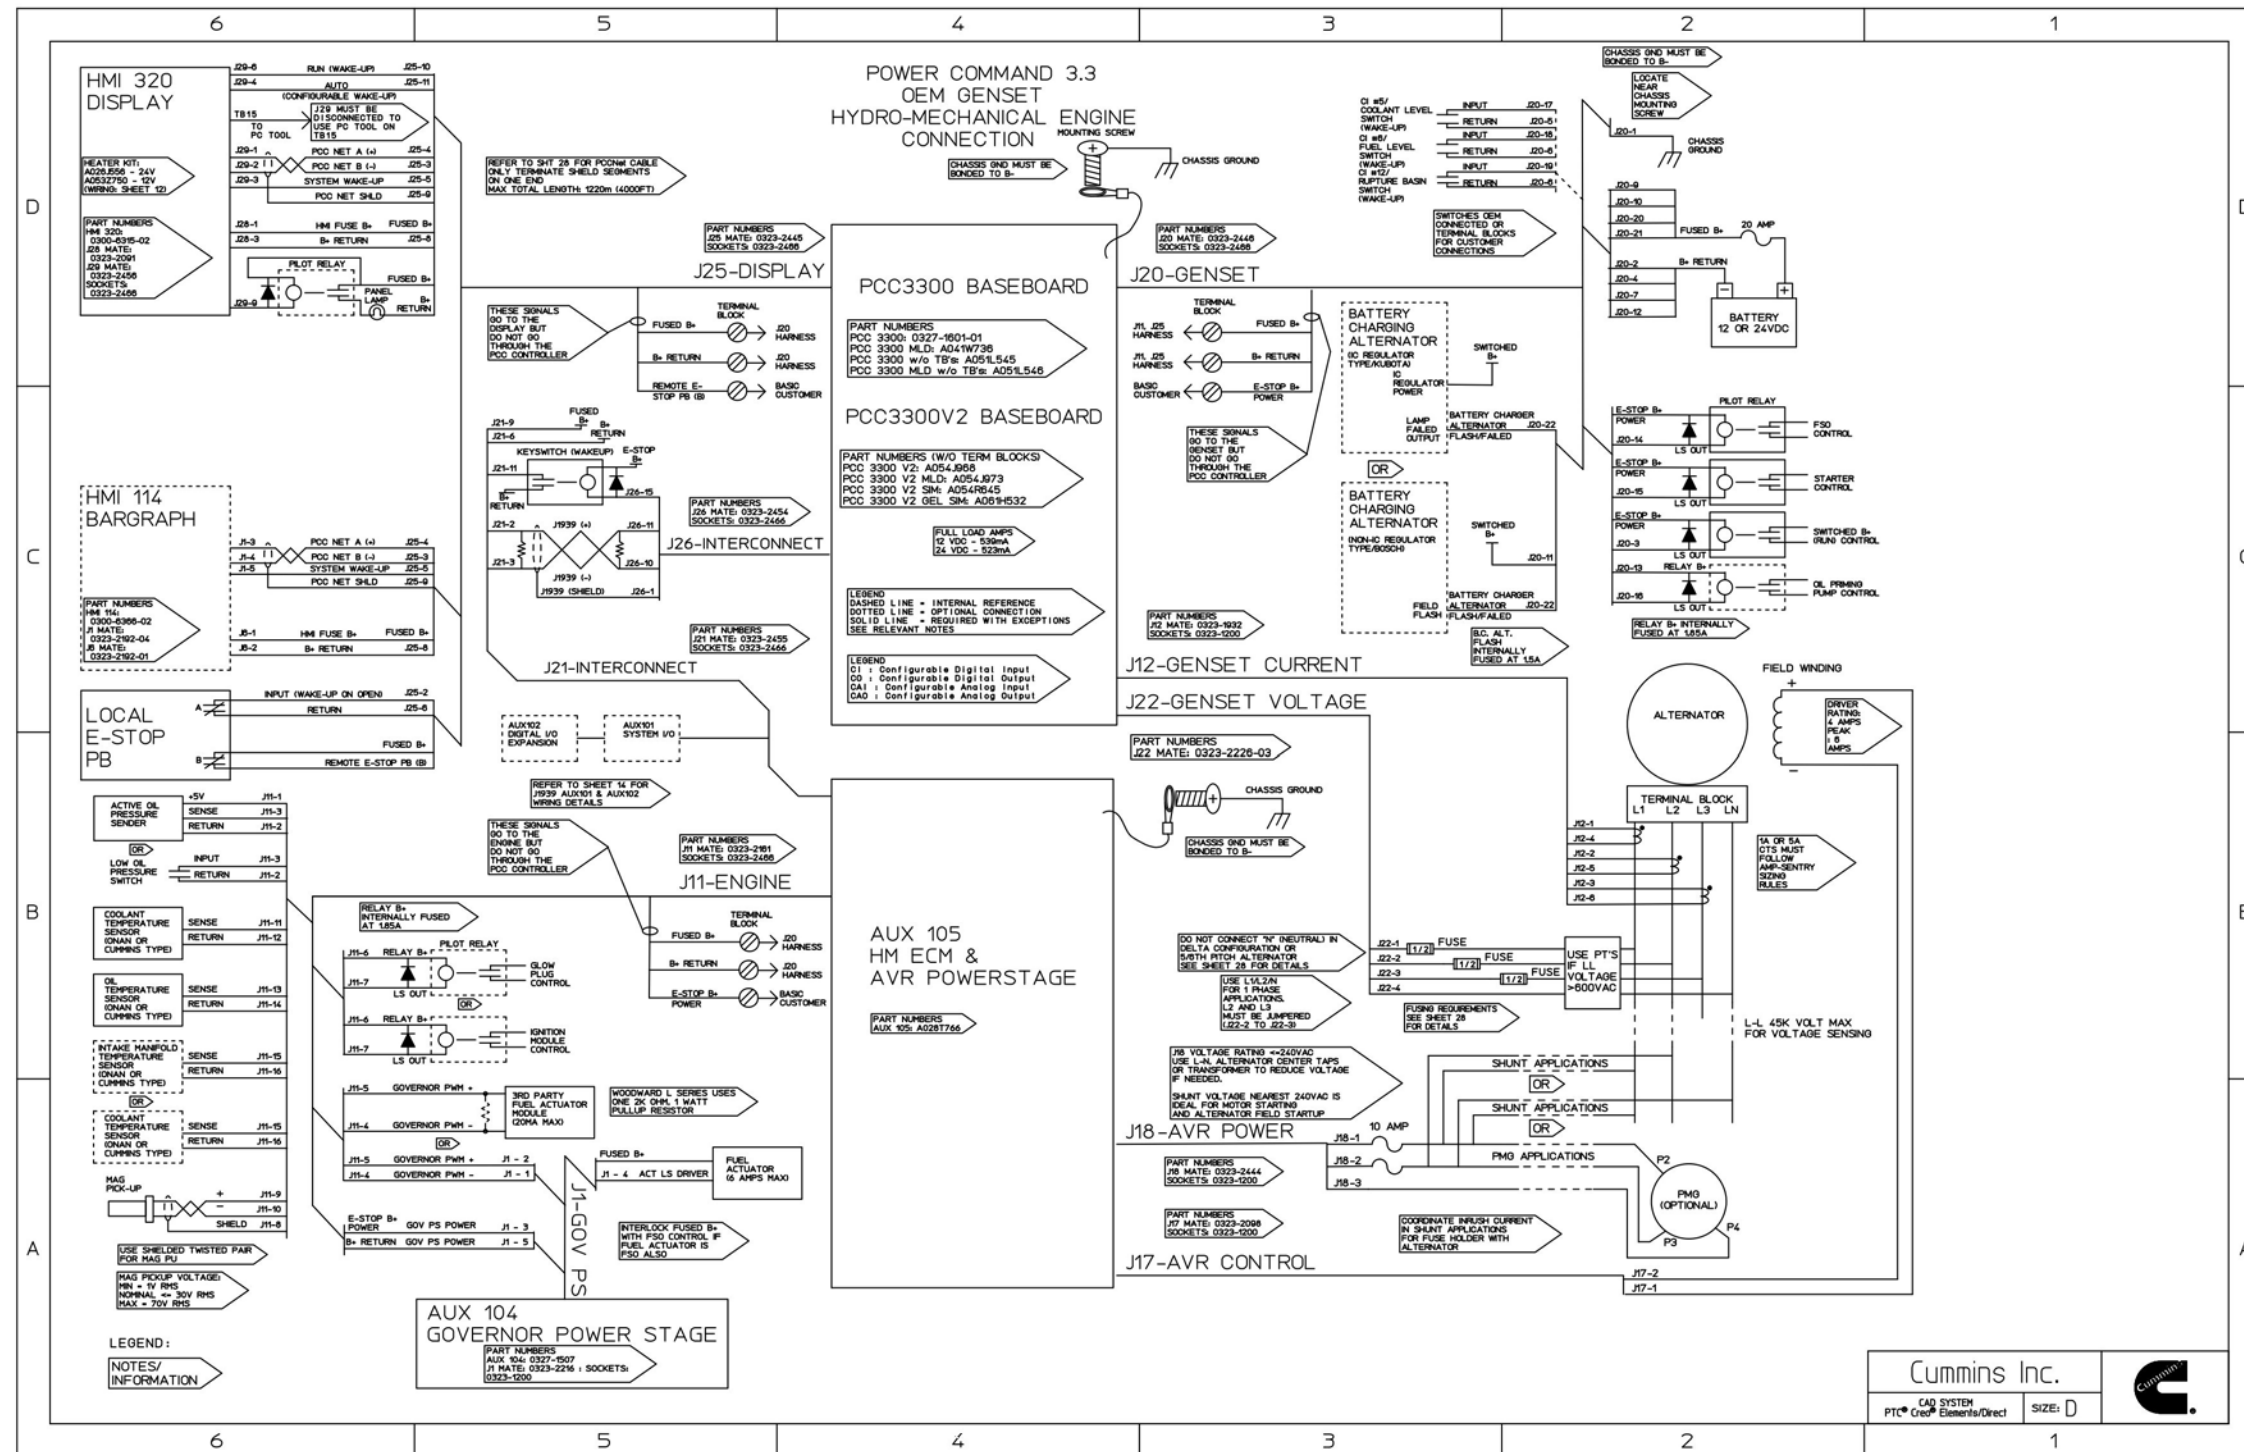

FIGURE 53. POWERCOMMAND 3.3 CONNECTIONS - HYDROMECHANICAL ENGINE
- Figure 53. PowerCommand 3.3 Connections - Hydromechanical Engine 116